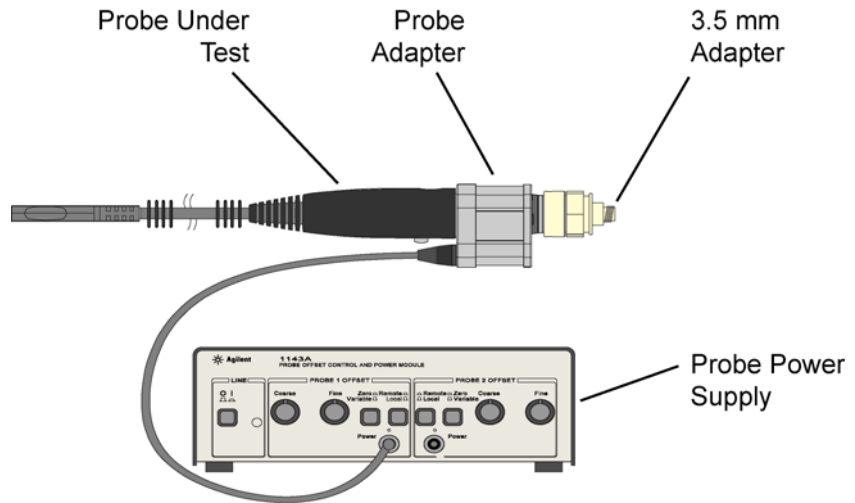

Figure 15 Probe Connected to Probe Adapter (*not to scale*)
- 6 Connect the probe under test to the AutoProbe Adapter and power the probe using the 1143A power supply as shown in Figure 15 on page 43. Install the outside thread adapter to the AutoProbe Adapter.